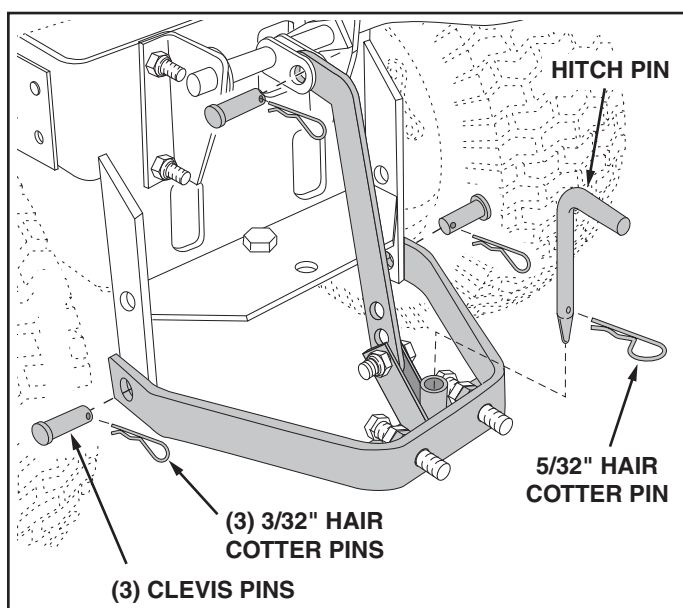

FIGURE 8
11. Attach the Sleeve Hitch Lift Assembly to the Sleeve Hitch Frame Assembly using three 5/8" x 1-3/4" clevis pins and 3/32" hair cotter pins as shown in figure 8.
12. Install the hitch pin in the sleeve hitch and secure it with the 5/32" hair cotter pin. See figure 8.